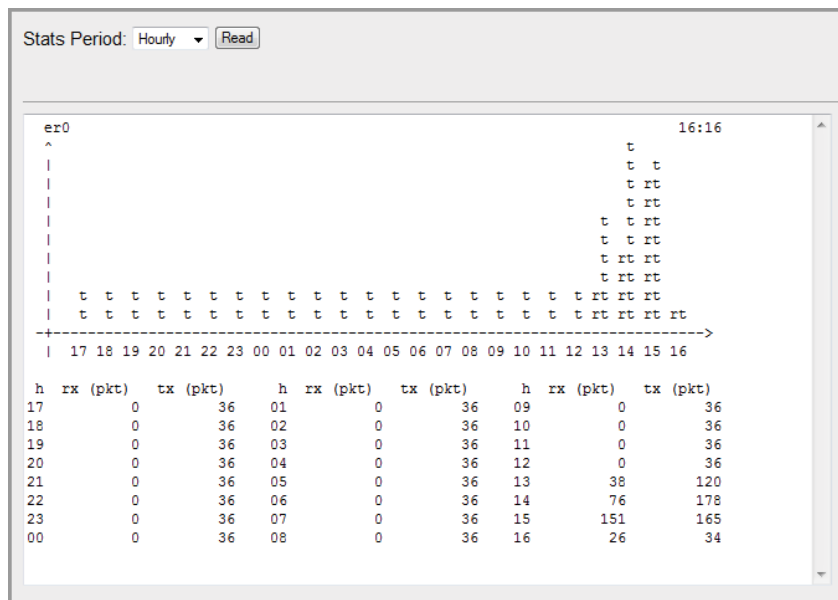

Figure 98 Hourly Statistics
- Hourly— This option displays a graph showing overall transmit (t) and receive (r) data on an hourly scale in accordance with the module Date and time stamp. The letters “rt” indicate both transmit and receive. The table below the graph shows the average data throughput (in packets) for transmit and receive for each hour. See Figure 98.